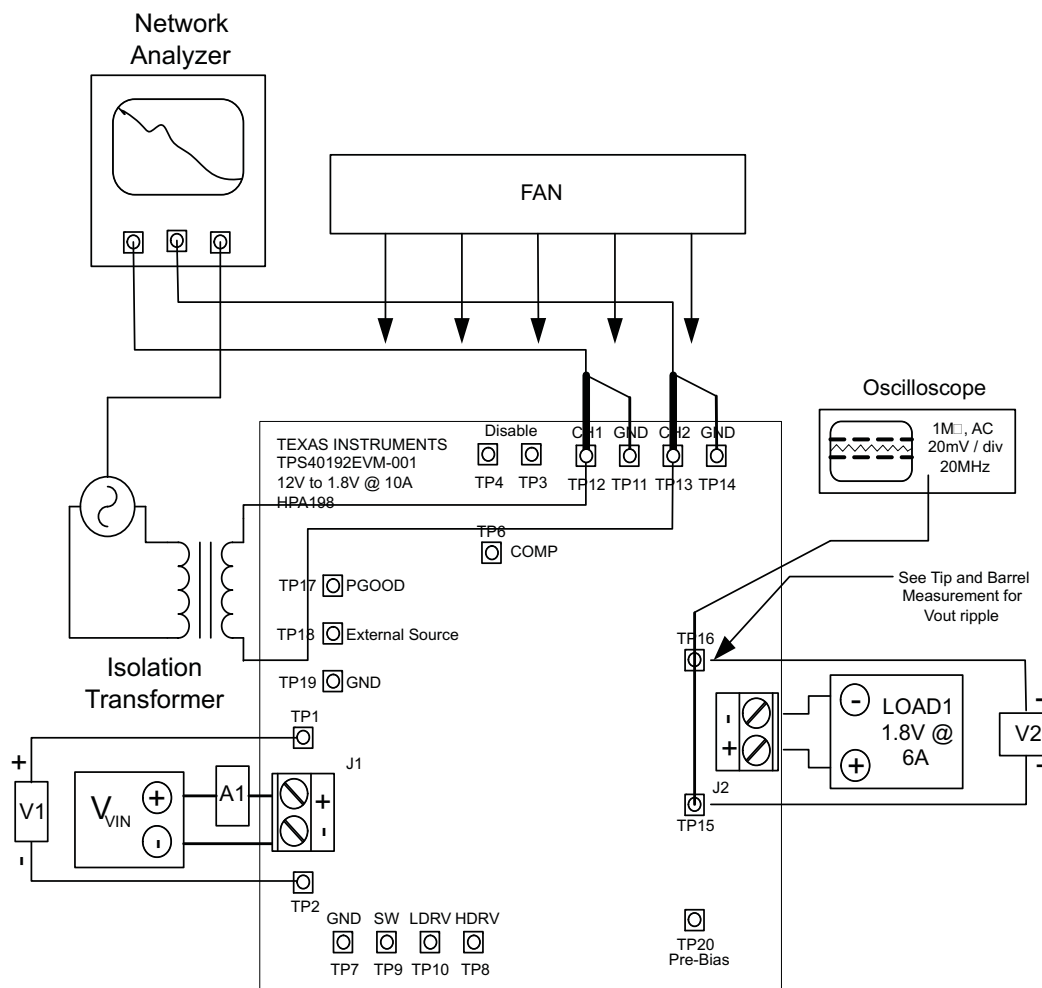

Figure 3. Control Loop Measurement Setup
1. Connect a 1-kHz to 1-MHz isolation transformer to TP12 and TP13 as shown in Figure 3.
2. Connect the input signal amplitude measurement probe (channel A) to TP12 as shown in Figure 3.
3. Connect the output signal amplitude measurement probe (channel B) to TP13 as shown in Figure 3.
4. Connect the ground lead of channel A and channel B to TP11 and TP14 as shown in Figure 3.